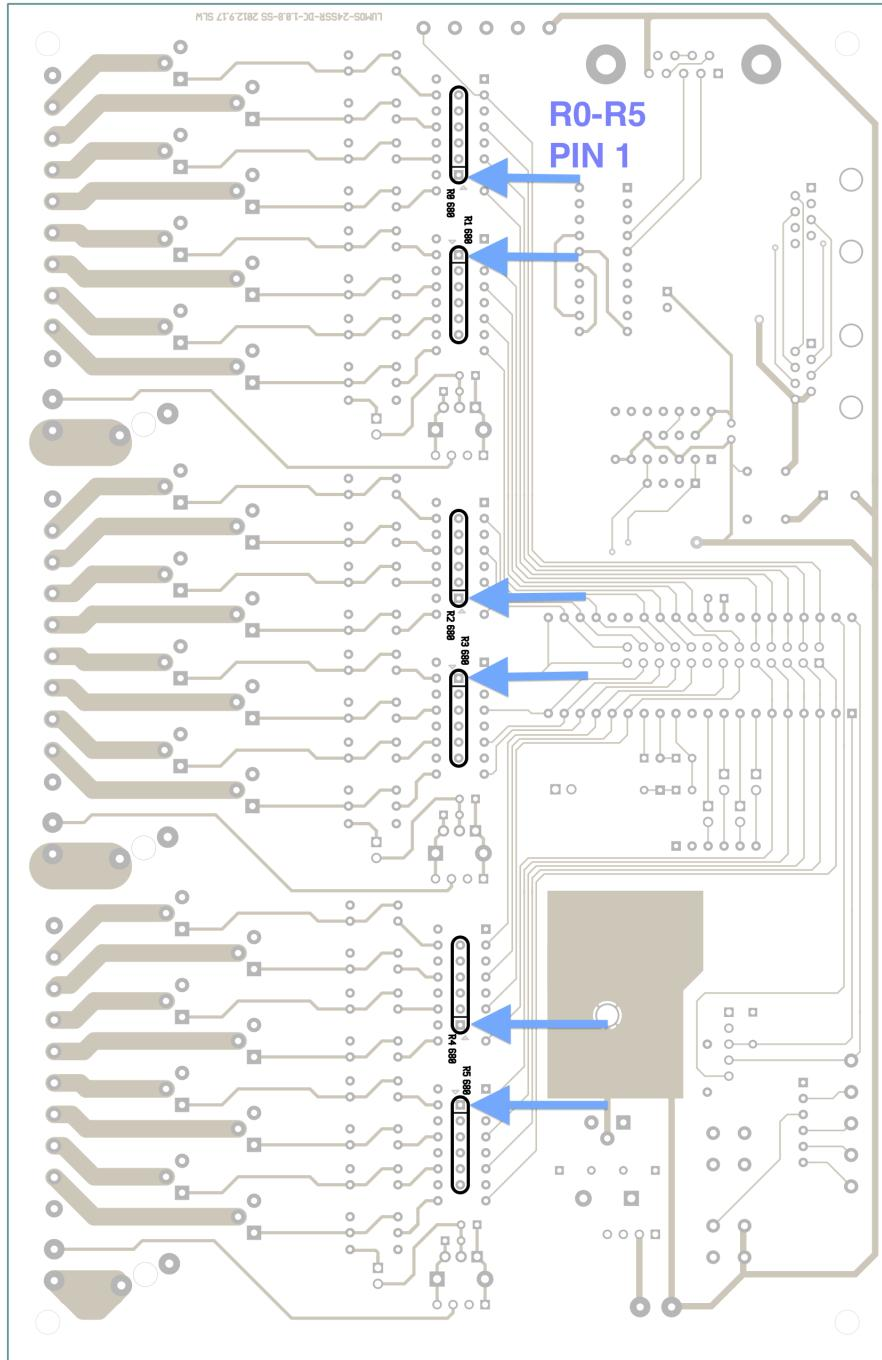

Figure 5.2: Lumos Board Parts Placement (Reverse Side)
4. Repeat steps 1–3 to install (24) $470\ \Omega$ resistors (“yellow-violet-brown”) at R9–R32.
5. Repeat steps 1–3 to install (24) 10 K resistors (“brown-black-orange”) at R33–R56.
6. In the same fashion, install and solder (3) $0.33\ \mu\text{F}$ capacitors into positions marked C0–C2.
7. Install and solder (3) $0.1\ \mu\text{F}$ capacitors into positions C3–C5. **NOTE: Capacitor C3 is located nearest to C0 on the PCB. On board versions through 1.0.8, this is mis-labeled as “C1.”**
8. Install (3) 1N4004 diodes at D0–D2. **Note: These parts will not function if inserted the wrong direction.** Each diode has a stripe on one end. This end is inserted into the hole marked by the straight line (cathode) drawn on the PCB. The unmarked end goes into the hole marked by the triangle (anode). Solder into place.
9. Install (3) green LEDs at D3–D5. **Note: These must be inserted in the correct orientation.** The longer lead (anode) goes into the square hole, while the shorter lead (cathode) goes into the round hole. Solder into place.
12. Install (1) $680\ \Omega$ resistor network *on the bottom (solder) side* of the board at R0 (the row of six holes *inside* U0). **Note the correct position of R0.** The square hole on the PCB marks where pin 1 of R0 should be inserted. Pin 1 is marked with a dot on R0 itself. See Figure 5.2.